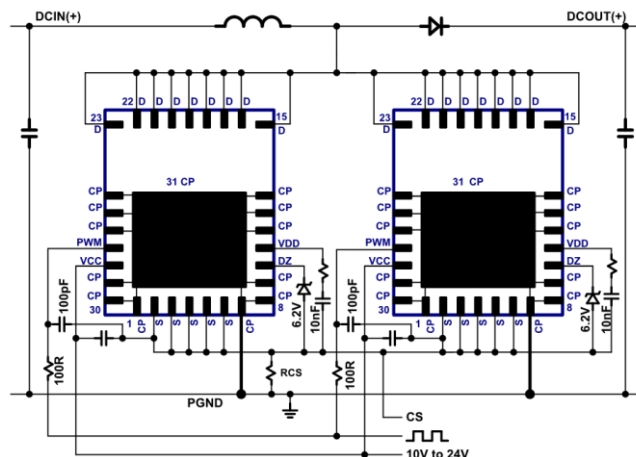

Fig. 25. Boost schematic using two parallel ICs
For some applications it is desirable to parallel ICs in order to reduce conduction losses and temperatures. Two NV6125 ICs can be connected in parallel in a PFC boost application working in boundary-conduction mode (BCM) only. The parallel configuration for two NV6125 ICs is shown in Fig. 25. The paired pins that are connected together include the drain pins (D), the source pins (S), the VCC pins, the PWM pins, and the DZ. A single DZ diode can be shared by both ICs. The VDD pins are not connected together and require separate VDD supply capacitors (C_{VDD1} , C_{VDD2}) and separate turn-on current set resistors (R_{DD1} , R_{DD2}). Each IC should have its own local VCC supply filter capacitor (C_{VCC1} , C_{VCC2}). The PWM pins can have a single filter resistor (R_{PWM}) but separate filter capacitors (C_{PWM1} , C_{PWM2}) should be placed at the PWM pin of each IC. When designing the PCB layout for the two paralleled ICs, the drain and source connections should be made as symmetrical as possible to avoid any parasitic inductance or capacitance mismatch.